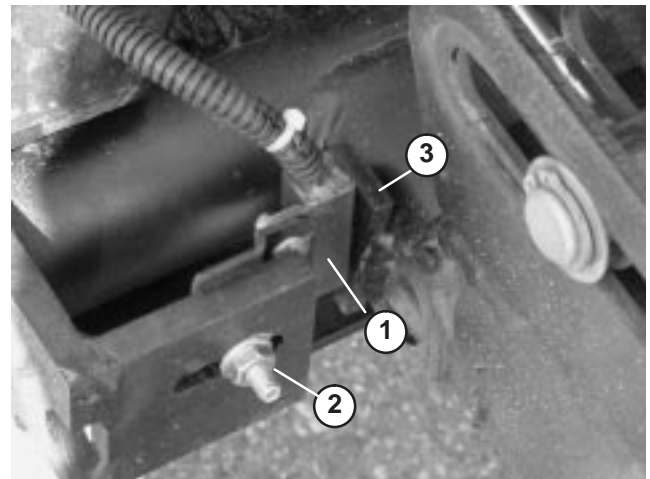

Figure 10
- Loosen the carriage bolt nut securing the lift arm switch bracket to the #4 lift arm (left front) (Fig. 10).